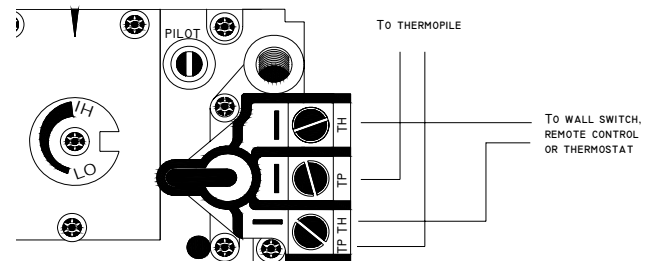

Fig. 35 – Gas Valve Connection
2. Connect the wires to the gas valve (see figure 35).